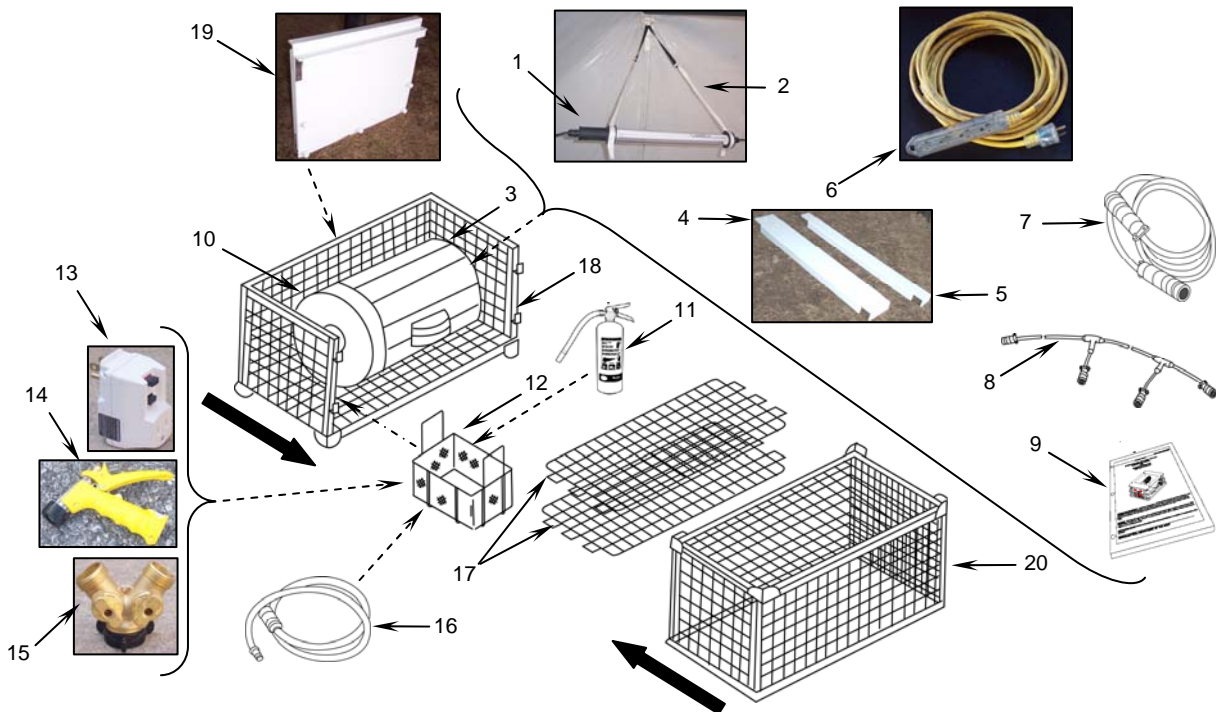

Figure 46. Packing First Storage Rack Assembly.
- a. Place the two electric lights (**Figure 46, Item 1**) and their light-hanging straps (**Figure 46, Item 2**) into one waste receptacle (**Figure 46, Item 3**).
- b. Wrap the two sink coupler heat shields (**Figure 46, Item 4**) and the sink edge heat shield (**Figure 46, Item 5**) in barrier material and place in the waste receptacle.
- c. Place the 100-ft extension cord (**Figure 46, Item 6**), and the 25-ft DC cable (**Figure 46, Item 7**) into the waste receptacle.
- d. Place the two 2-branch cables (**Figure 46, Item 8**) and burner manuals (**Figure 46, Item 9**) in the waste receptacle.
- e. Place the lid (**Figure 46, Item 10**) on the waste receptacle and seal with duct tape.
- f. Wrap the fire extinguisher (**Figure 46, Item 11**) in barrier material and place into the immersion rack (**Figure 46, Item 12**).
- g. Place the GFCI (**Figure 46, Item 13**), hose nozzle (**Figure 46, Item 14**), and Y-adapter (**Figure 46, Item 15**) in the immersion rack.
- h. Place the coiled 20-ft fuel line (**Figure 46, Item 16**) on top of the fire extinguisher in the immersion rack.
- i. Place two shelves (**Figure 46, Item 17**) into the bottom of an empty storage rack assembly (**Figure 46, Item 18**).
- j. Nest the three sink front heat shields (**Figure 46, Item 19**) together, wrap in barrier material, and stand up inside and against the back of the storage rack assembly.
- k. Place packed waste receptacle (**Figure 46, Item 3**) and packed immersion rack (**Figure 46, Item 12**) into the storage rack assembly (**Figure 46, Item 18**).
- l. Using a two-person lift (one person on each end), turn a second storage rack (**Figure 46, Item 20**) upside down and position it so that its empty side faces the empty side of the first storage rack (**Figure 46, Item 18**).
- m. Nest the second storage rack (**Figure 46, Item 20**) over the first storage rack (**Figure 46, Item 18**) to form a box.